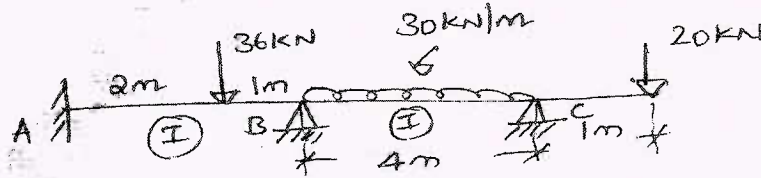

Fig.Q1
- 1 Analyze the continuous beam shown in Fig.Q1 by slope deflection method and sketch BMD.